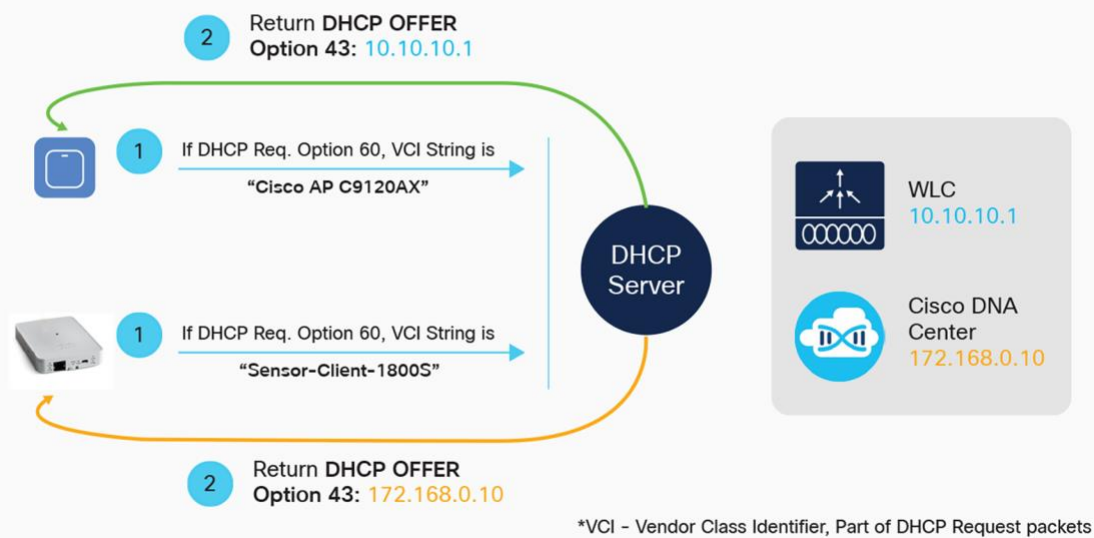

Figure 22.
- b. Conditional: If the DHCP option 43 field is already used for another purpose (such as to send the wireless controller IP address to the AP), you can configure the DHCP server to return a different option 43 message based on the client device type (**Figure 22.**)